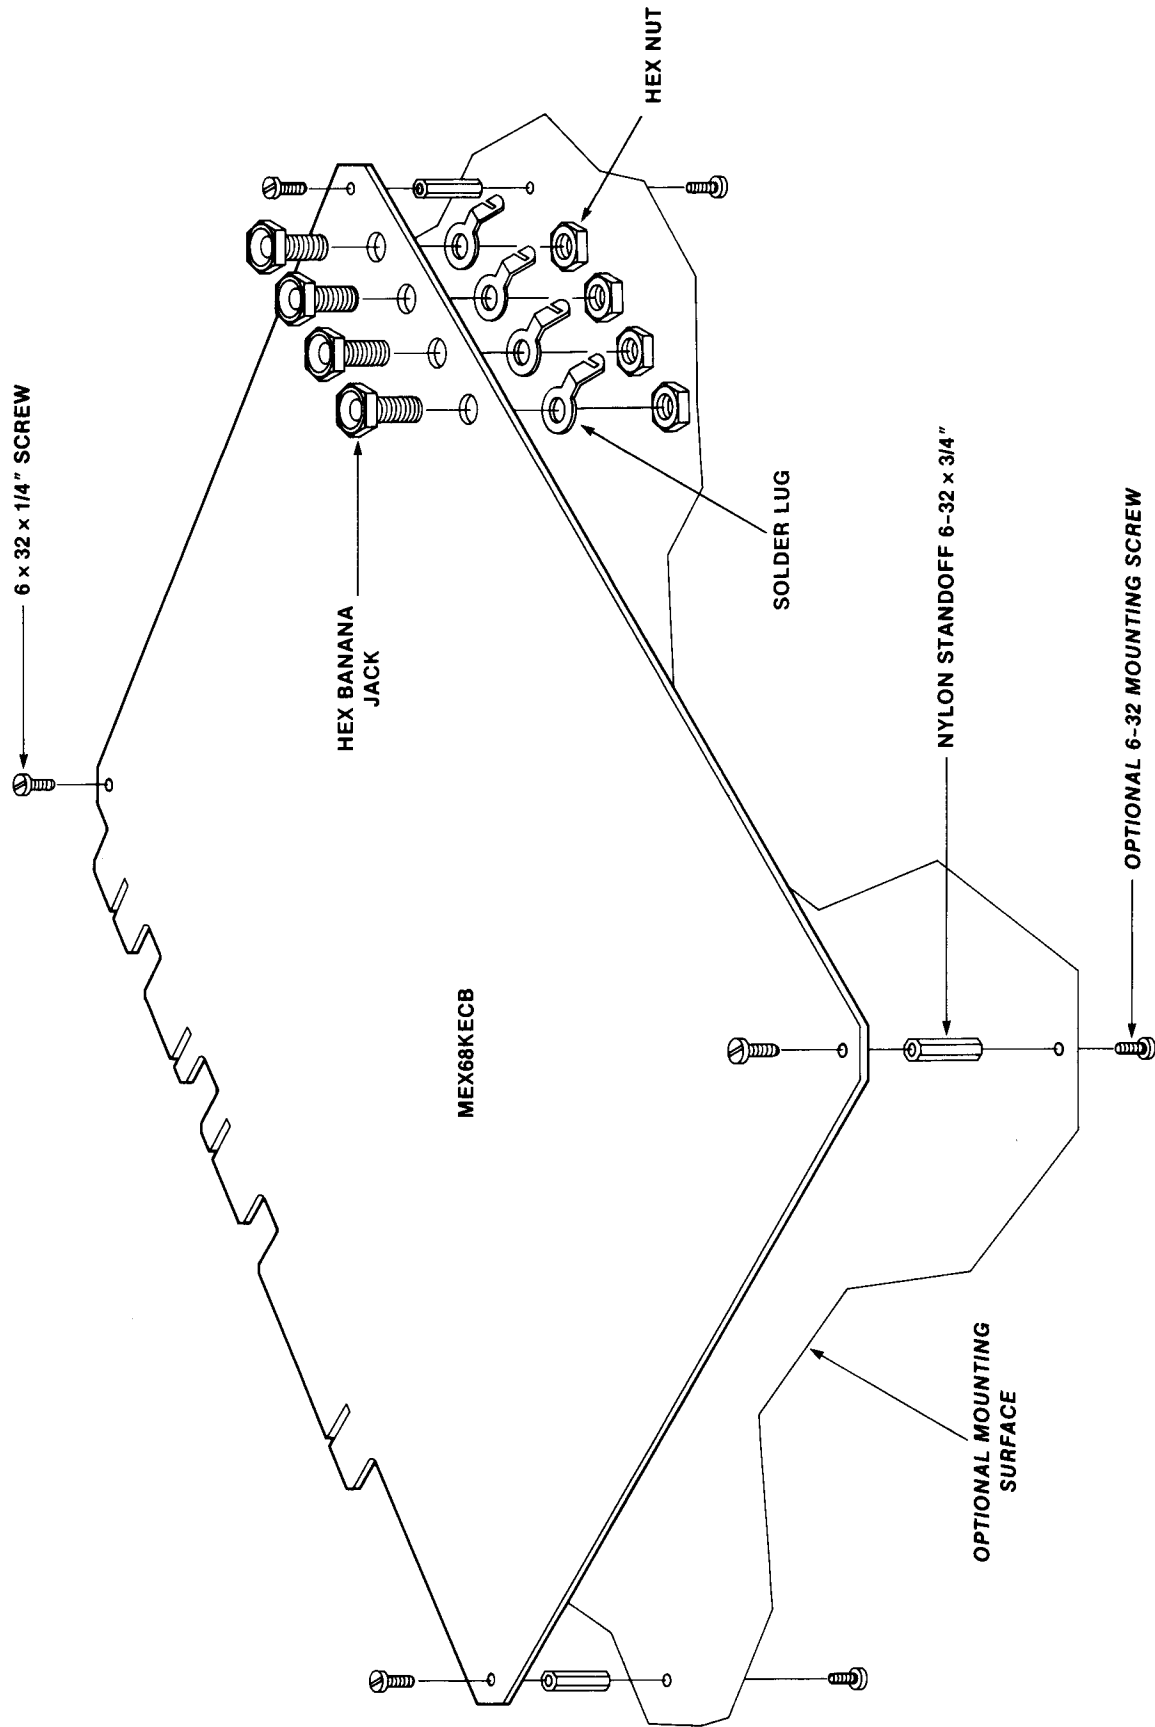
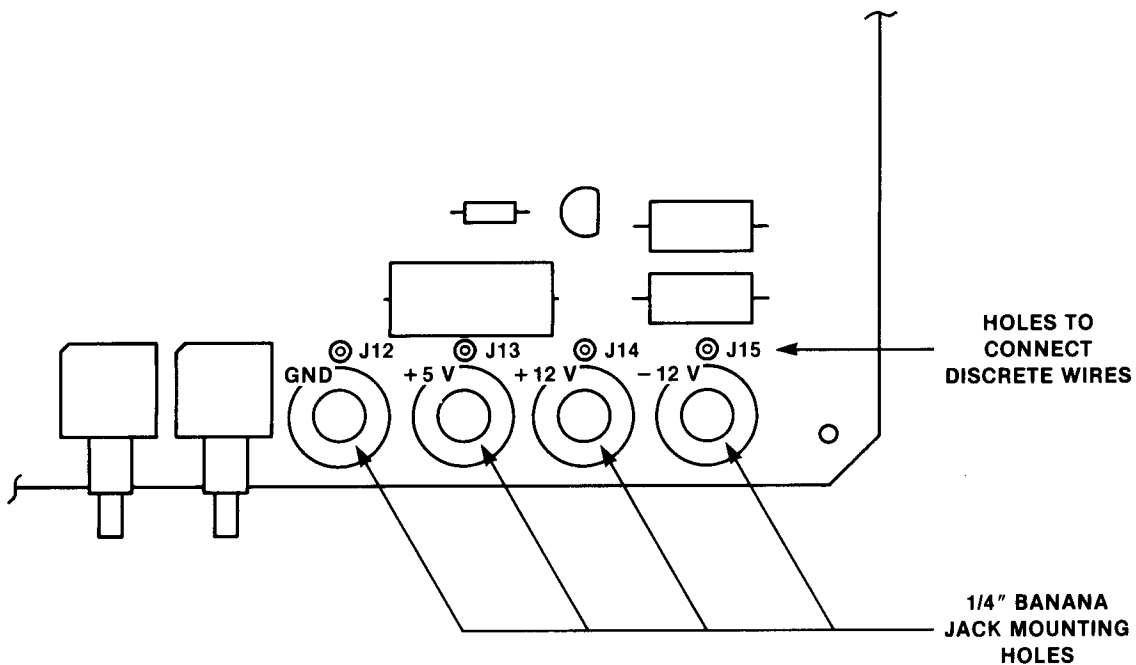

FIGURE 2-2. Hardware Mounting Detail
FIGURE 2-3. Detail Showing Location of Holes J12, J13, J14, J15 to Connect Discrete Power Wires
Four holes located at the corners of the board are used to mount the nylon standoffs. These are screwed to the back side (opposite of component side) of the card, as shown in Figure 2-2.
**2.2.2.1 Banana Jacks.** Four banana jacks compatible with standard banana plugs are provided for power connectors (+12 Vdc, +5 Vdc, Ground, -12 Vdc). These are mounted in four 1/4-inch holes at a corner of the board, as shown in Figure 2-2.
2.2.2.2 Alternate Method - Discrete Wires. If banana plugs are not desired, discrete wires can be used to supply power to the board. Wires can be soldered to the lugs supplied with the banana jacks (Figure 2-2) or four small holes are provided to solder discrete wires to the board. These holes (designated J12, J13, J14, J15) are shown in Figure 2-3, and interconnect supply voltages as follows: